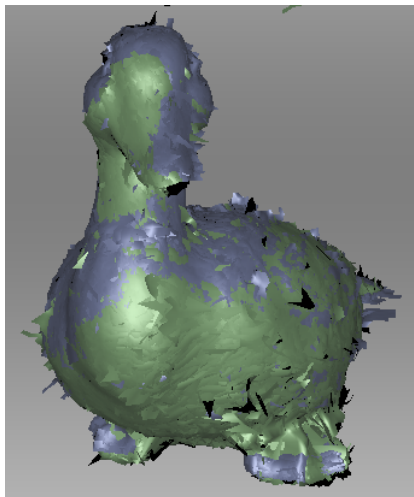

Figure 79: “Drag” alignment result
3. To confirm the alignment, release the mouse button(s) and the **Shift** key, then click *Apply*. Note carefully that any scans you are registering won't automatically move to the registered set  (see Figure 79). You can do so manually as the *Changing Object Status* describes.